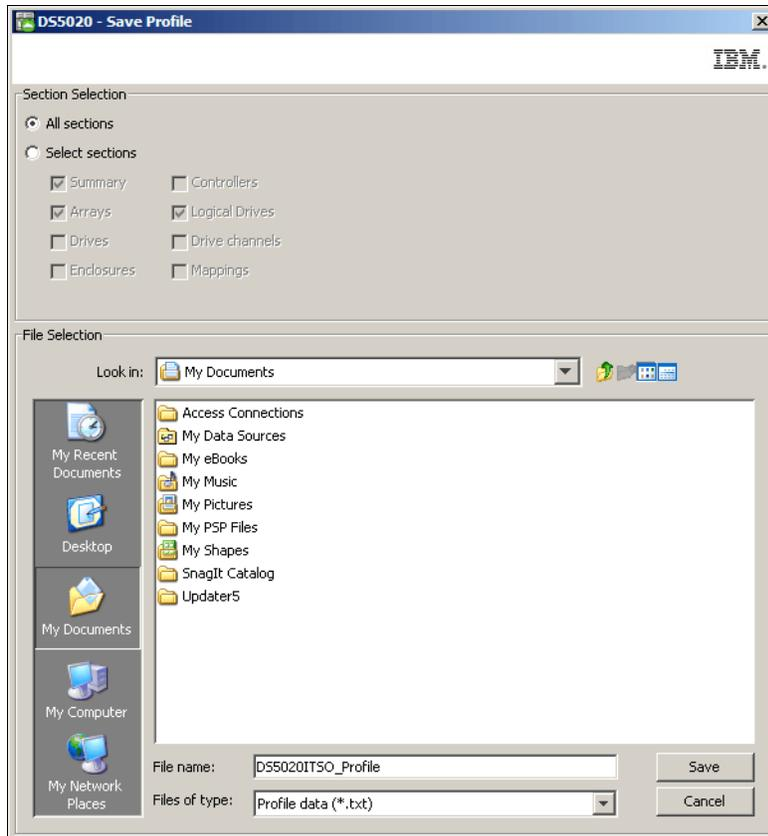

Figure 10-47 Save the profile file in text format including all the sections
- ▶ Save the file in text format, including all the section as shown in Figure 10-47.